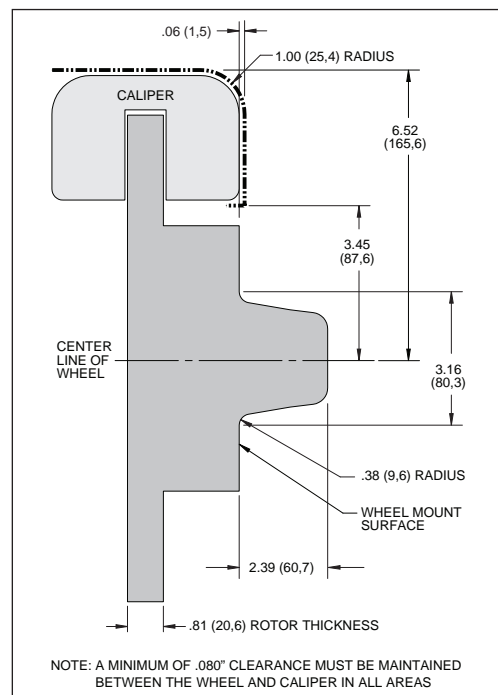

Figure 3. Wheel Clearance Diagram
- Review the Wheel Clearance Diagram (Figure 3, page 4) to verify that there is adequate clearance with the wheels you will be using with the installation.
- Verify wheel clearance using Figure 3.
- **WARNING:** The wheel contact surfaces must seat completely on the face of the hub. If any contact surfaces overhang the outside diameter of the hub face, a 6.60" diameter x .20" thick steel spacer (item 24, Wilwood P/N 300-11961) MUST be used between the wheel and the hub.